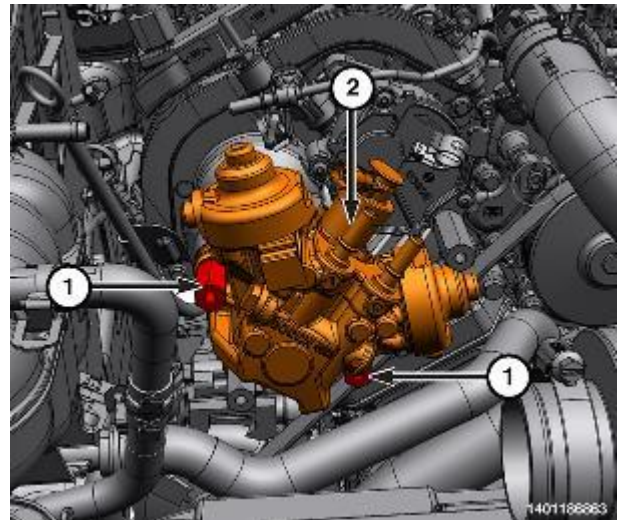

Figure 38 – Fuel Quantity Solenoid Connector and HPFP Upper Bolts
- 72. Remove the upper bolts (1) from the high-pressure pump (2) (Figure 38).
- 84. Tighten the bolts (1) that secure the fuel injection pump to 25 N·m (18 ft. lbs.) (Figures 38 and 39).